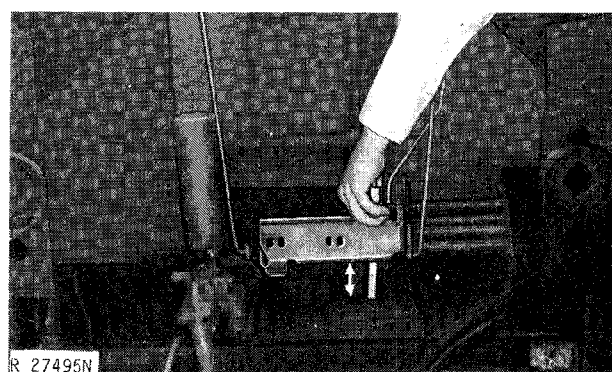

Fig. 21-Measuring Placement of Hydraulic Control Inner Support
40. Measure distance between hydraulic control inner support and SOUND-GARD body to insure that support is reinstalled in its original position (Fig. 21).